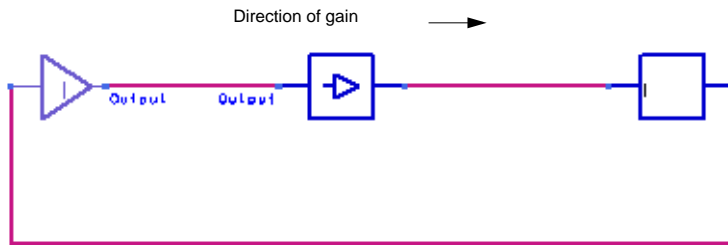

Figure 3-5. Example setup for using the OscTest component
Figure 3-5 illustrates a setup using the OscTest component.
- In a feedback oscillator, use the OscTest component to break the feedback path. The arrow (and pin 2) should point in the direction of injection (the direction of the gain). Refer to Figure 3-5.